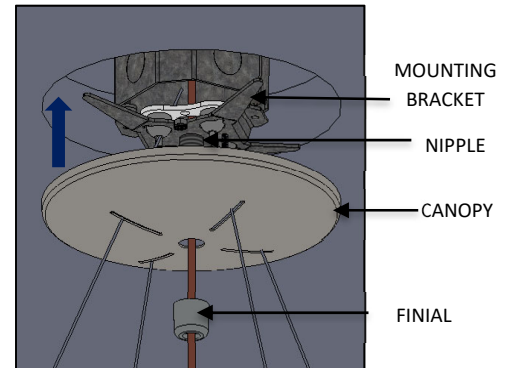

FIG. 21 - FINIAL INSTALLATION
11. Raise CANOPY and secure to ceiling by threading the FINIAL to the NIPPLE (MOUNTING BRACKET ASSEMBLY) until fully seated as shown in FIG. 21.